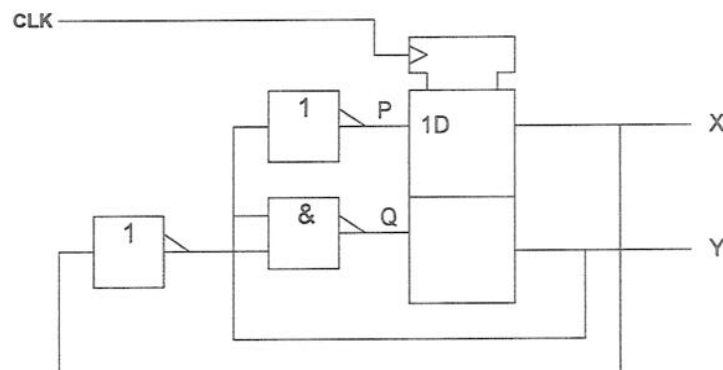

Figure 5.1
- a) Figure 5.1 shows a simple clocked circuit. Draw the waveforms for the signals P , Q , X and Y over 5 clock cycles indicating the time at all signal transitions.